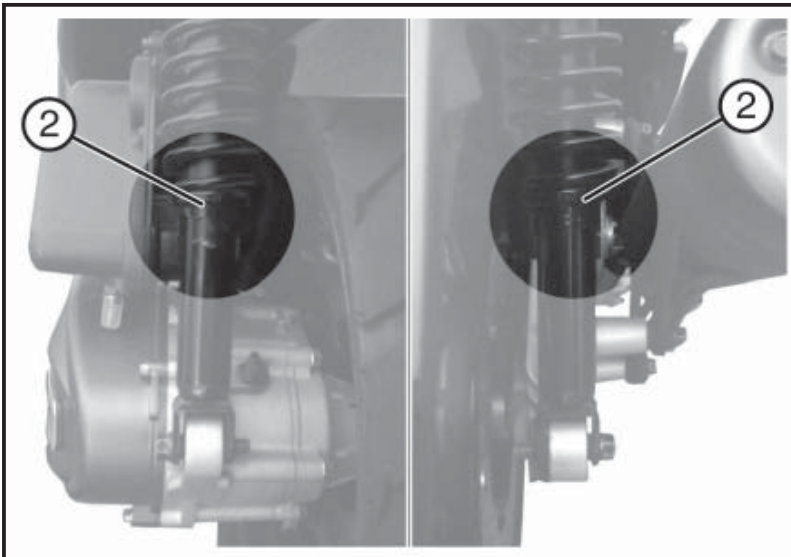

Fig. 02
4.26 SHOCK ABSORBER ADJUSTMENT (Fig. 02)